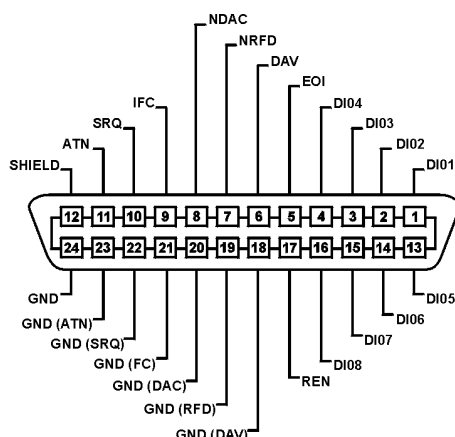

Figure 4: GPIB Pin Assignment
1. Check the GPIB cable to ensure that the pin assignment is correct (Figure 4).